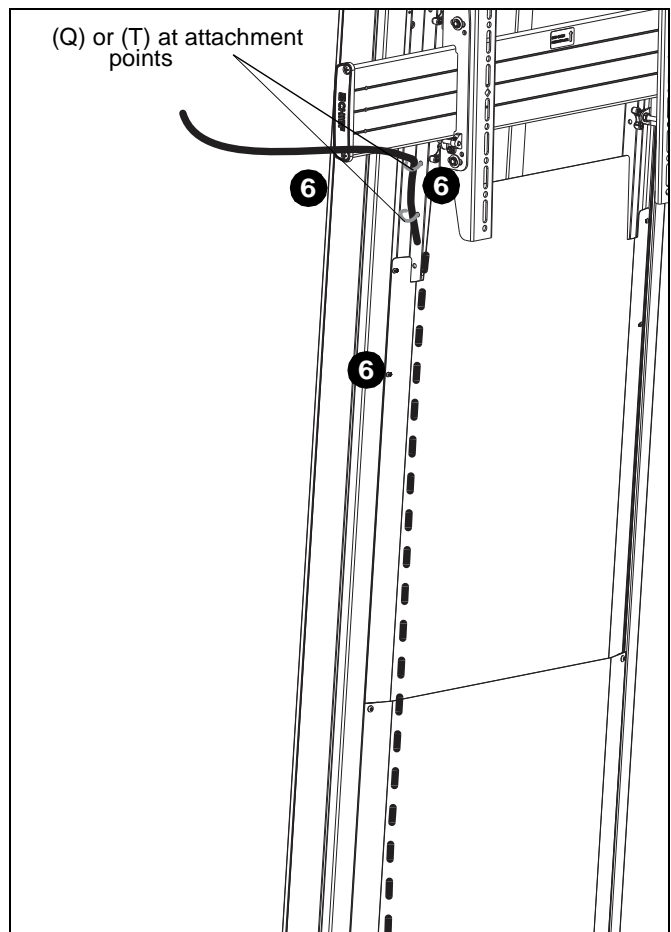

Figure 20
6. Route cables from display through inside of column assembly attaching at cable management attachment points and/or accessory bracket using cable ties (Q) or cable clips (T) as desired. (See Figure 20)